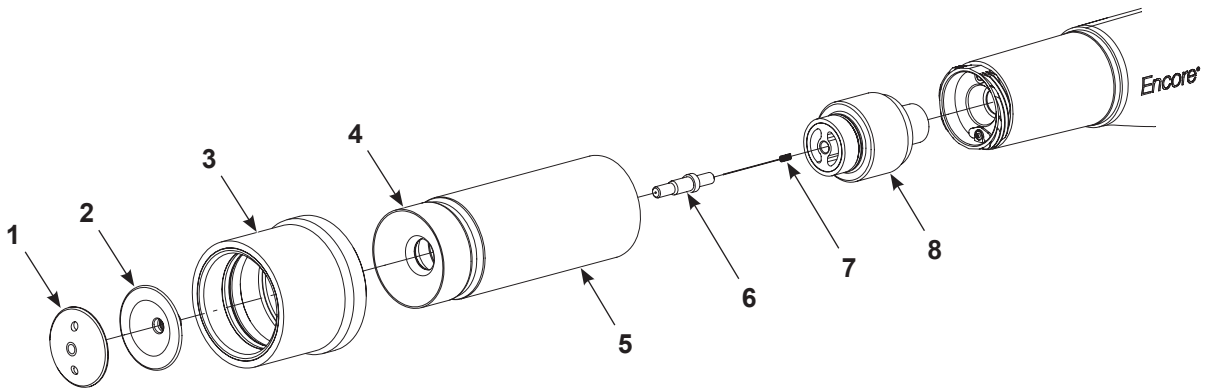

Figure 4-1 Cleaning a Conical Nozzle
1. See Figure 4-1. Hold the deflector (2) with finger while unscrewing the deflector cap (1). Gently pull the deflector off the conical electrode holder (6).
2. Unscrew the nozzle nut (5) and remove the nut, conical nozzle (4) and pattern sleeve (3) from the spray gun.
5. Inspect the electrode holder (6). If the electrode holder is worn or damaged, unscrew it from the electrode support, then remove the electrode (7). Install the electrode in the new holder, then screw the holder in the electrode support (8). Install the electrode support assembly (6, 7, and 8) into the spray gun.